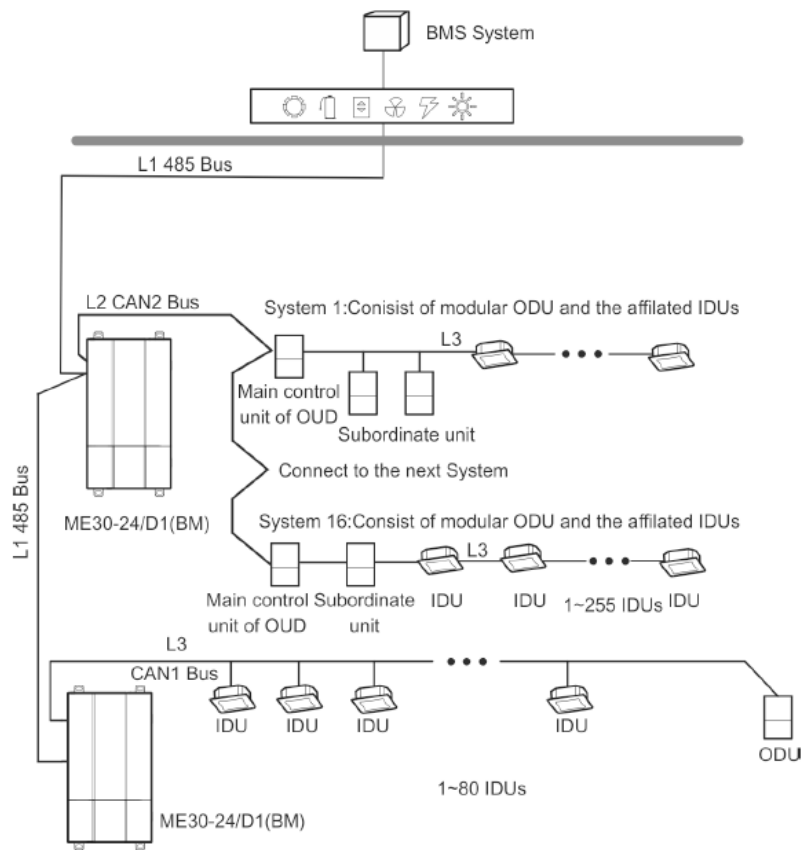

Fig. 6.1 Network topology for communication method of Modbus RTU
- **485 bus:** L1 shown in Fig. 6.1 is 485 bus, one 485 bus can connect to 254 gateways at most.